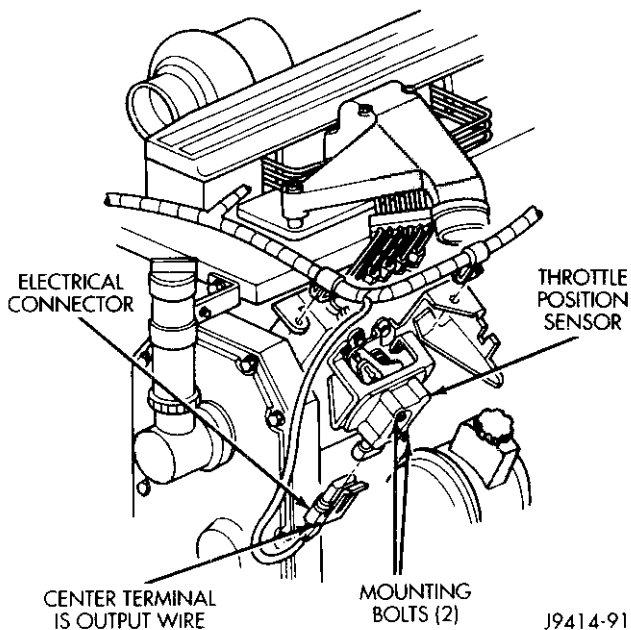

Fig. 34 Throttle Position Sensor—Diesel
- (1) Disconnect the electrical connector on bottom of TPS (Fig. 34).
- (2) Remove the two TPS mounting bolts.
- (3) Remove the sensor from bracket.
(1) After confirming the correct linkage adjustment and idle speed, proceed to the following:
(2) Attach a paper clip into the center terminal (Fig. 34) of the TPS electrical connector. Do not remove the connector from the TPS for this test.
(3) Attach the positive lead of a voltmeter to this paper clip and the negative lead to a good ground.
(4) Turn the ignition switch to the ON position. Do not start engine.
(5) The voltage at the TPS center terminal should be 1.0 volt ($\pm .2$ volt) with linkage at idle position. At